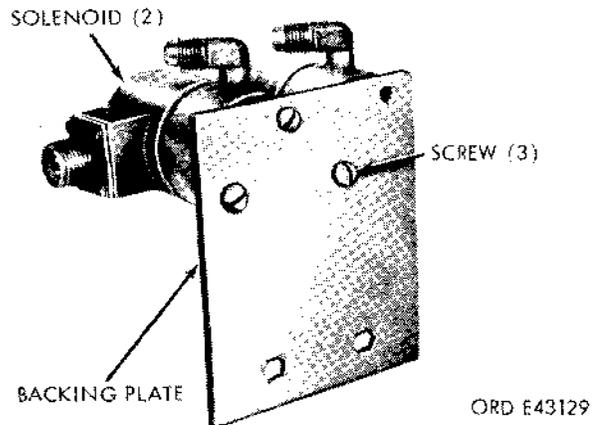

Figure 2-114. Separating two solenoids from backing plate—diesel models.
- (5) Remove the remaining three screws securing the two solenoids to the backing plate (fig. 2-114).
- (1) Secure the two solenoids to the backing plate with the three screws (fig. 2-114).